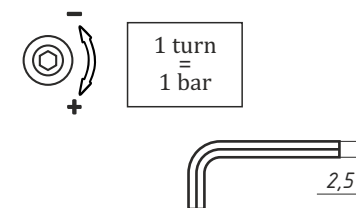

Fig. 4. Setpoint setting
- To set the regulation setpoint, you will need a 2.5 mm Allen key. Install it in the hex hole of the adjusting screw (Fig. 4) and rotate clockwise to increase the set point, counterclockwise to decrease the set point. 1 revolution corresponds to a change in the setpoint by 1 bar. The factory default setting is 20 bar. To set the set point, use a pressure gauge installed in the same line as the regulator.